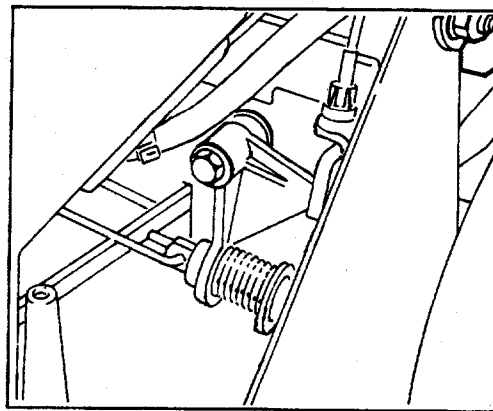

Figure 34
4. Remove any debris that may have accumulated in area behind panel (Fig. 34).